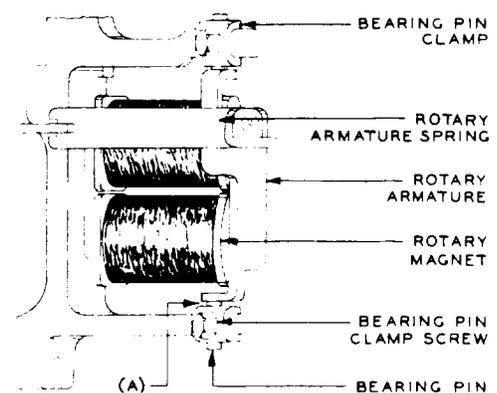

Fig. 2—Parts Associated With Rotary Magnet
**3.05 Rotary Armature Play:** The rotary armature (Fig. 2, location A) shall not bind, and the vertical play of the armature shall not exceed 0.003 inch. **Gauge by sight and feel.**